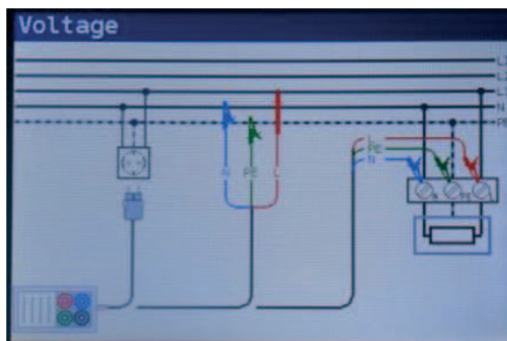

Figure 4.33: Connection diagram
Step 2 Connect test cable to the instrument and follow the connection diagram shown in figure 4.33 to perform a voltage and frequency measurement.